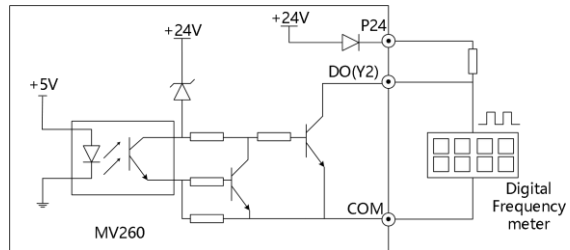

Fig.3-19 Connecting mode 1 of output terminal DO
(3) When the digital pulse frequency output DO (Y2 terminal used as DO) uses the internal 24V power supply of the drive, the wiring mode is as shown in Fig.3-19.